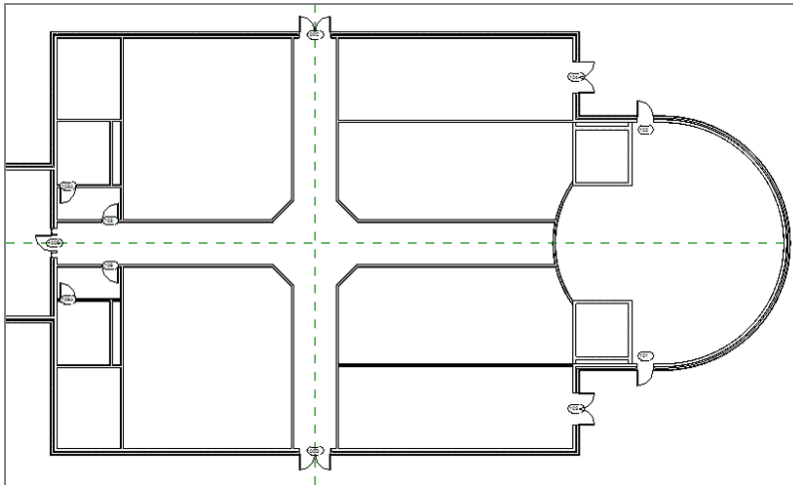

FIGURE 2.76: Two new corridor doors
3. Add the double doors to the ends of the vertical corridor, as shown in Figure 2.76.